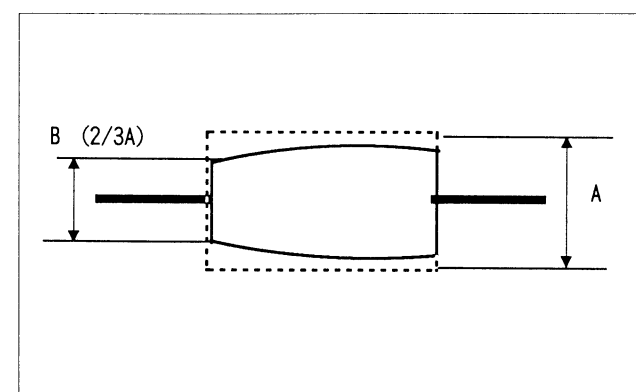

Fig. 1-4
- 3) Make the RF waveform envelope 2/3 by turning ATF Balance Volume (Refer to Fig. 1-4)